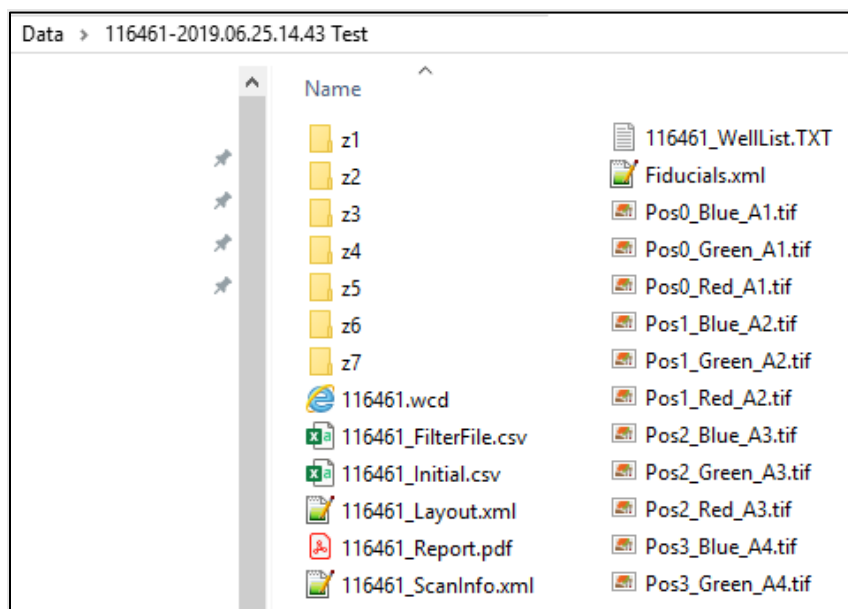

**Figure 24. ICELL8 cx chip.** The chip ID is located next to the Takara Bio branding, on the bottom when the chamfered edge is on the lower right.
- After processing is complete, the software will provide a prompt for saving results. Click [Yes] and input a file name prefixed with the chip number, `<chipID>_<Date>.wcd`, where `<chipID>` is the chip number identifying the chip (found on the edge of the ICELL8 cx chip, Figure 24) and `<date>` is the date the image was processed.